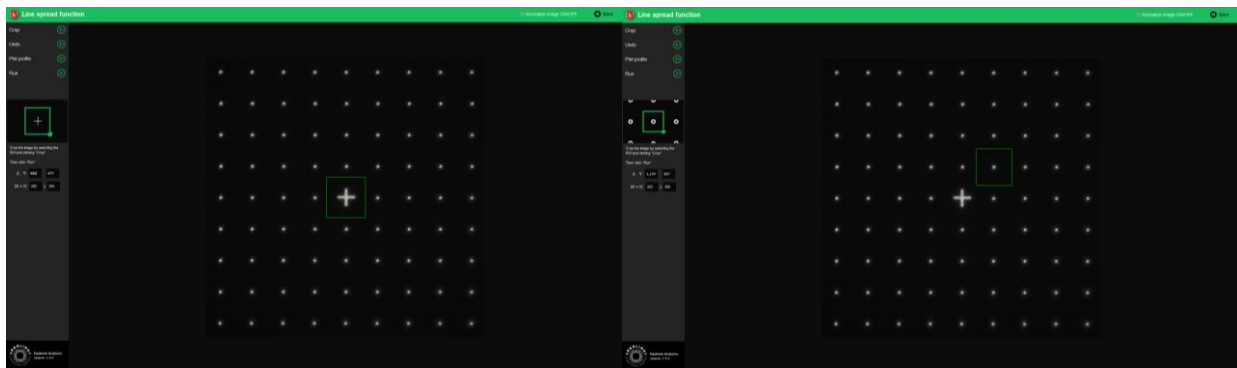

Figure 2: Crop windows to select a single cross (left) and a single ring (right).
- e) Select within a region of interest (ROI) a single cross or ring and click on “Crop” to crop the image (cf. Figure 2).